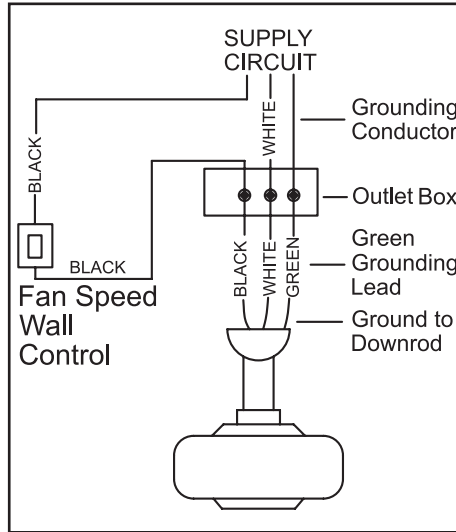

Figure 8
**Step 1** Connect the fan supply (black) wire to the black wire from the wall control as shown in Figure 8.